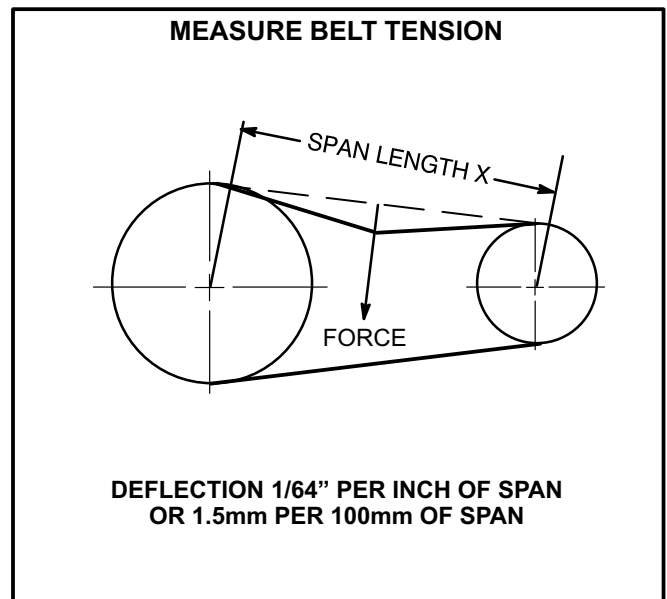

FIGURE 10
- 1- . Measure span length X. See figure 10.
- 2- . Apply perpendicular force to center of span (X) with enough pressure to deflect belt  $1/64$ " for every inch of span length or 1.5mm per 100mm of span length.